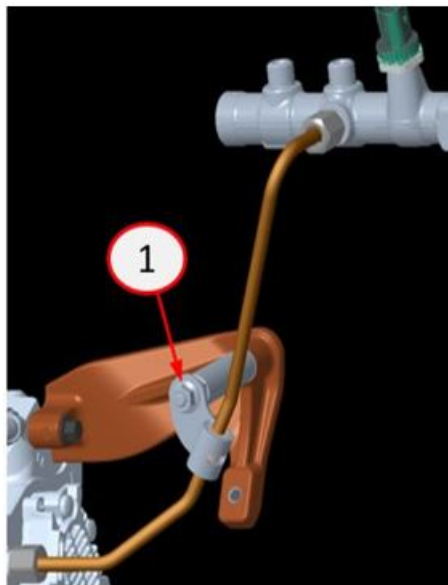

Fig. 14
35. Tighten the union nut at the pump first then the fuel rail to proper tighten 55 N·m (40.5 ft.lbs.) (Fig. 14) .